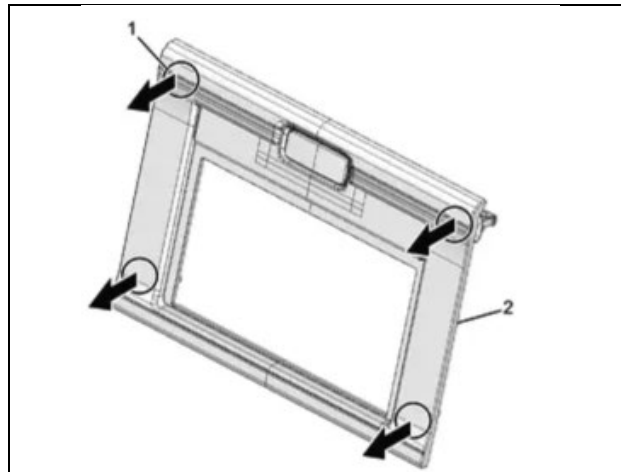

Figure 2
6. Pull out the bezel from the center cluster. (See Figure 2.)